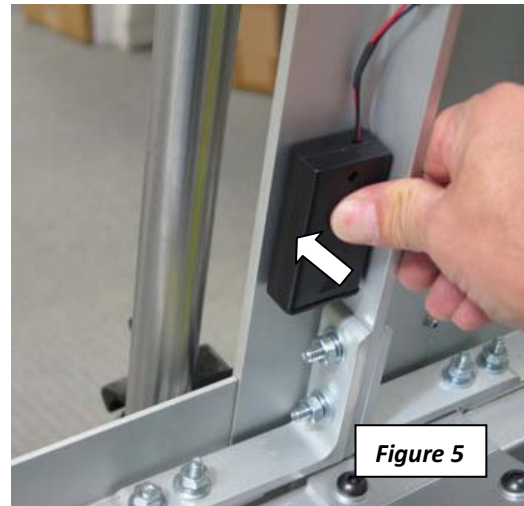

Figure 5
5. Peel off the protective film from the rear self-adhesive surface of the battery pack and adhere the unit to the lower-rear portion of the machine. Try to choose a location and orientation that will make future battery replacement most convenient (Figure 5).